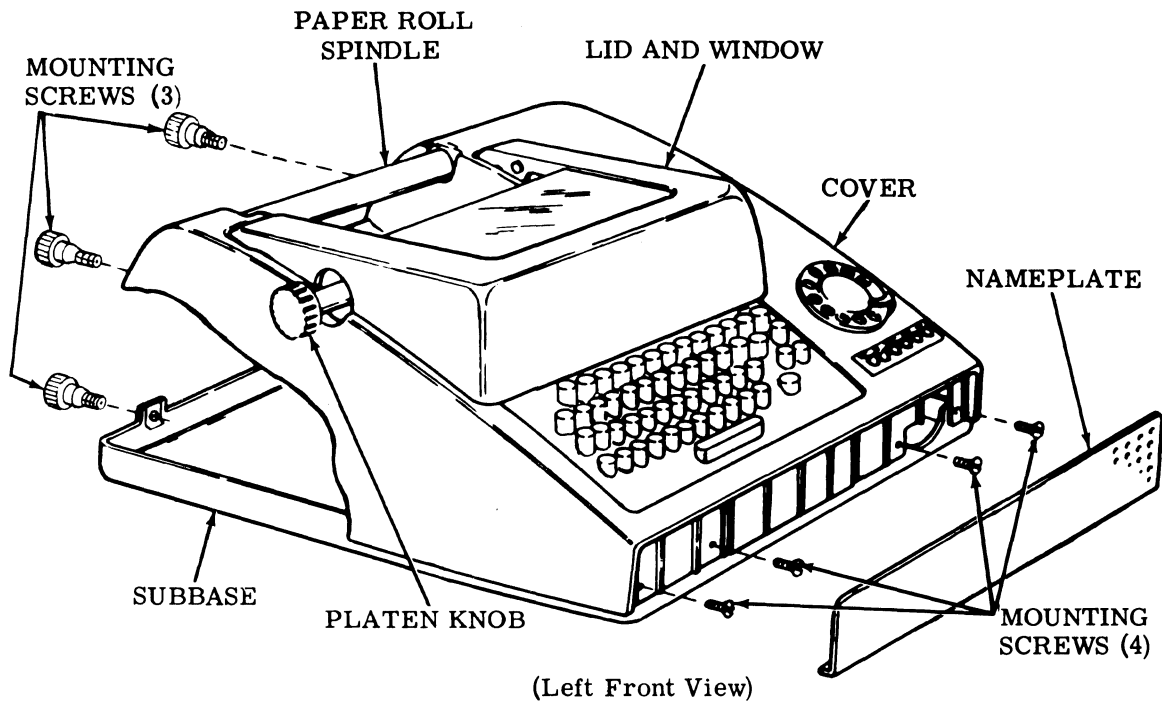

Figure 2 - Cover Mounting
- 1.10 Remove the call control bezel, if used, after removing its two mounting screws. Remove volume control knob or power switch rotary knob, if used, by pulling knob forward. Detach the nameplate (Figure 2) by pulling it down and out. Remove the four front and three rear cover mounting screws.